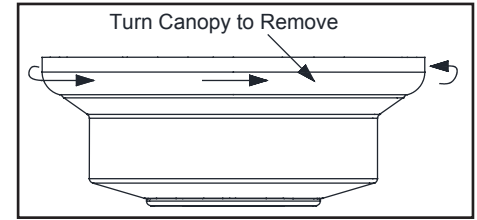

Figure 8
1. Remove the canopy ring from the canopy by turning the ring to the right until it unlocks. (Figure 8)